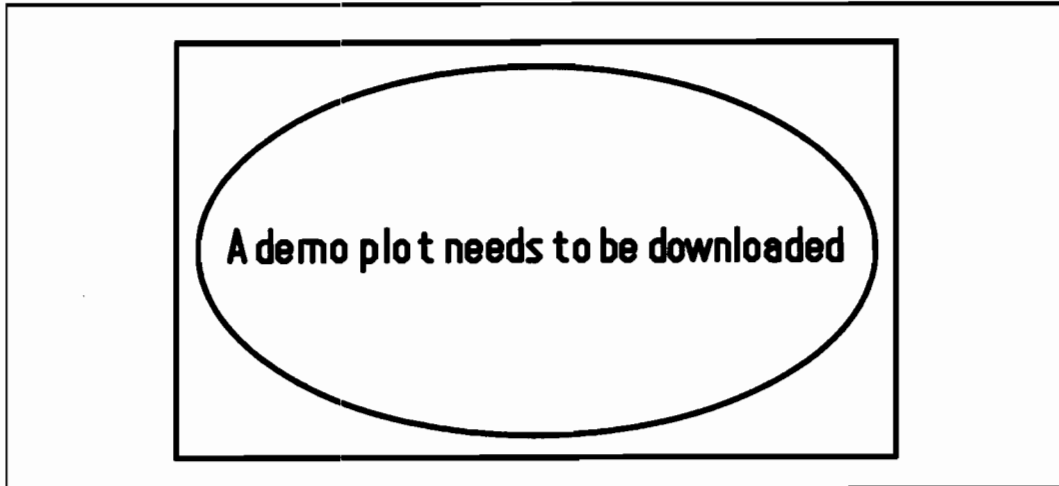

Figure 8-4. Back-up ROM Plot
If the 40 Mbyte hard disk has been replaced or reformatted, the demonstration plot may not have been loaded. In this case, attempting to run the demonstration plot will cause the plotter to revert to code stored in ROM. This will generate the back-up plot illustrated in Figure 8-4. This plot still confirms that all major functions of the plotter are operational. The procedure for loading the demonstration plot is found in this manual immediately after paragraph 8-30. .
5. The back-up ROM plot is illustrated in Figure 8-4. The demonstration plot is illustrated in Figure 8-5.